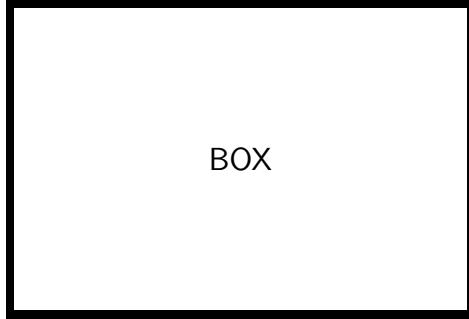

Figure 1: This is a box.
- BOX A drawing frequently uses auxiliary commands to size, place, label and caption it. The following commands draw the box in Figure 1 on page 3: